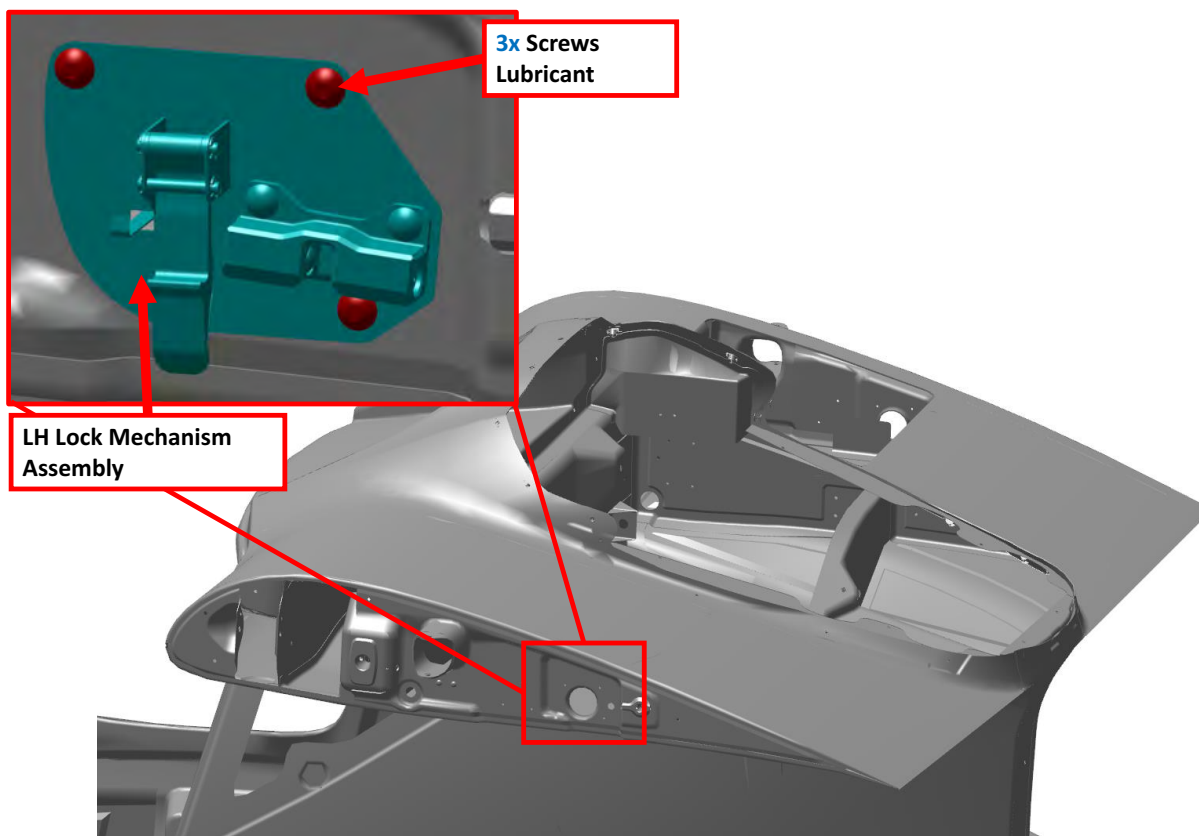

FIGURE 17-6
2. Use a T15 Torx drive to remove the three 8-32 truss-head screws attaching the wing lock switch plate assembly to the fuselage BL38 Rib. See Figure 17-6.